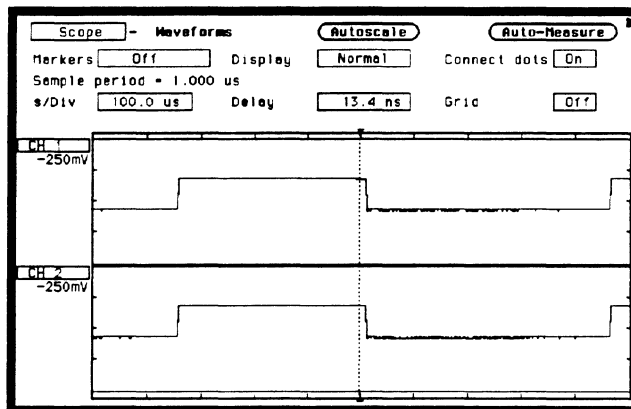

Figure 25-7. One Full Cycle Waveform
1. From the Waveform menu, select s/Div and change s/Div field to $100 \mu\text{s}$ to display only one full cycle of the waveform. See figure 25-7.
3. Be sure the displayed waveform is at least one full cycle. If not, touch TRIG key, then select **s/Div**. Change s/Div field to $100 \mu\text{s}$ to display only one full cycle of the waveform. See figure 25-7.